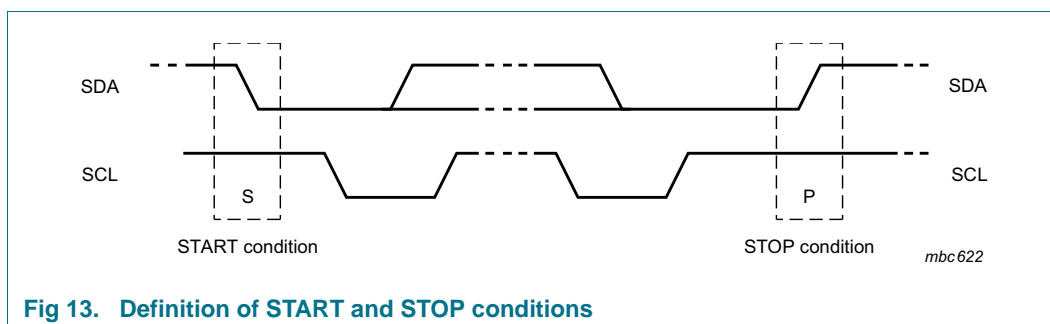

Fig 13. Definition of START and STOP conditions
Both data and clock lines remain HIGH when the bus is not busy. A HIGH-to-LOW transition of the data line, while the clock is HIGH is defined as the START condition (S). A LOW-to-HIGH transition of the data line while the clock is HIGH is defined as the STOP condition (P), see Figure 13.